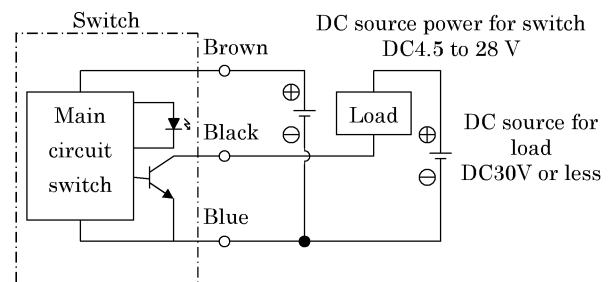

Fig.2 Fundamental circuit Example (2)
- (1) For R2 switch, connect the brown and blue lines to the positive and negative sides, respectively. If these lines are connected reversely, the switch and load are always kept activated. In this case, the indicator light is not lit. For R3 switch, pay special attention to Fig. 2 below.
- (2) Always connect the lead wires while referring to the colors shown on the lead wires. At this time, turn OFF the power to the unit in the electrical circuit on the connection side before starting the wire connection work. For R3 switch, if the wiring is performed incorrectly or the load is short-circuited, this may cause the switch, as well as the electrical circuit on the load side to break. Carefully connect the lead wires so that they are not connected incorrectly or short-circuited. Additionally, the work with the power supplied may cause the switch and electrical circuit to break if the work is performed in an incorrect manner even though the incorrect wiring is not performed.